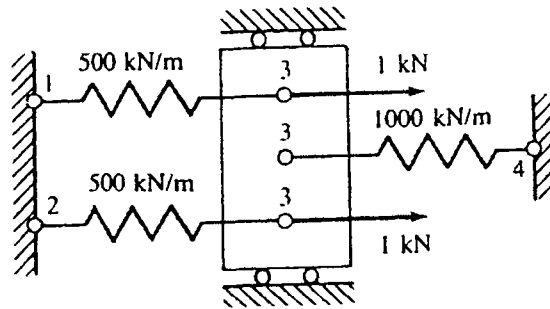

Figure Q1[a]
- Q1. [a] For the assemblage shown in Figure Q1[a], determine the nodal displacements, the forces in each element and the nodal reactions.